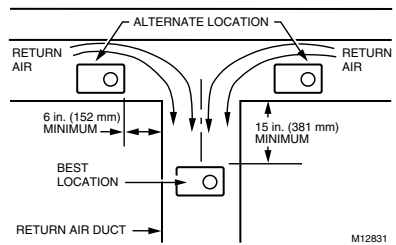

Fig. 2. Selecting duct location for humidistat.
- For return duct mounting, the humidistat should be mounted upstream from the humidifier or bypass so that it is properly sensing the relative humidity of the living space. Locate the control at least 8 in. (203 mm) upstream from the humidifier in the return air duct. (See Fig 2.)